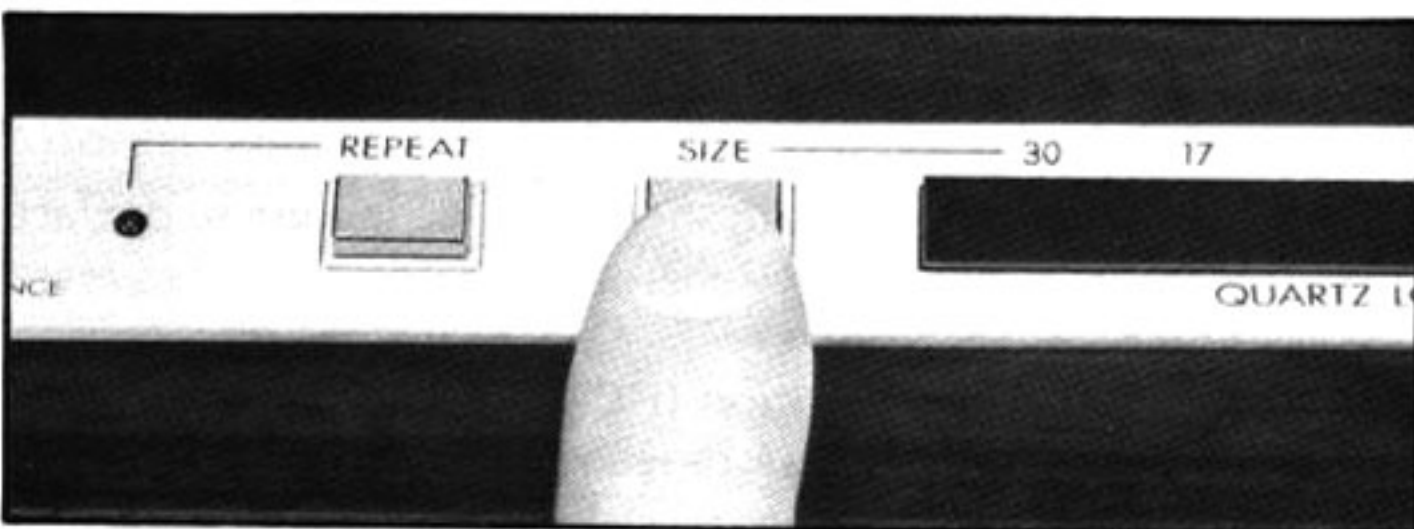

Fig. 23 Abb. 23
4. Set the SIZE switch according to the record size. (Fig. 23)